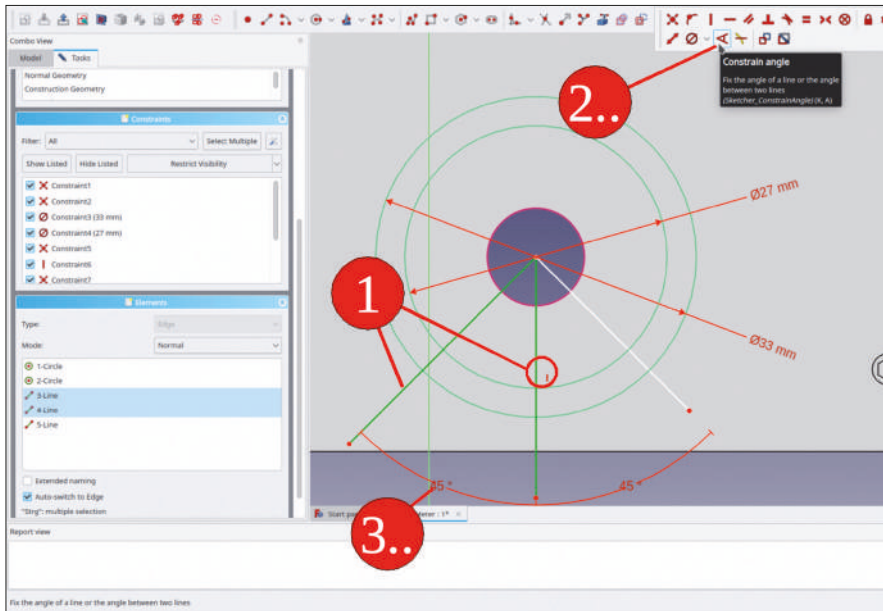

Figure 8-19
5. Draw three lines, each one with a starting point in the center of the circles. One of them must be oriented vertically (Figure 8-19). Mark the vertical line, and one of the outer lines, and click the 'Constrain angle' tool button (Figure 8-19).